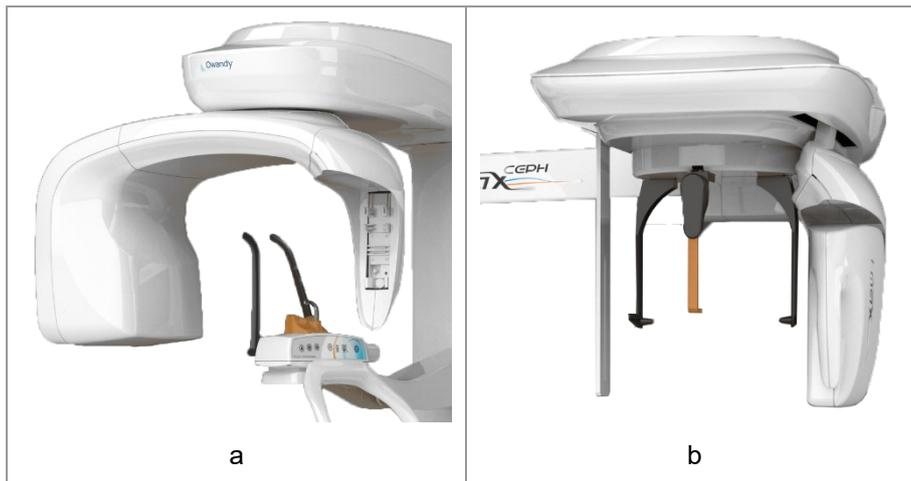

Figure 11
6. The user must move the sensor from the panoramic holder (Figure 11-a) to the cephalometric holder (Figure 11-b) and when it is done the machine moves the sensor holder to the parking position.